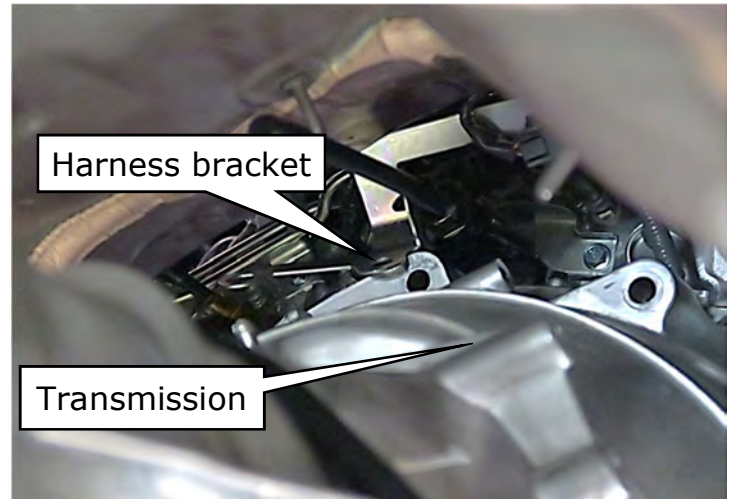

Figure 71
72. On the RH side of the transmission, reach up and position the harness and transmission breather tube bracket over the transmission case. (Figure 71)